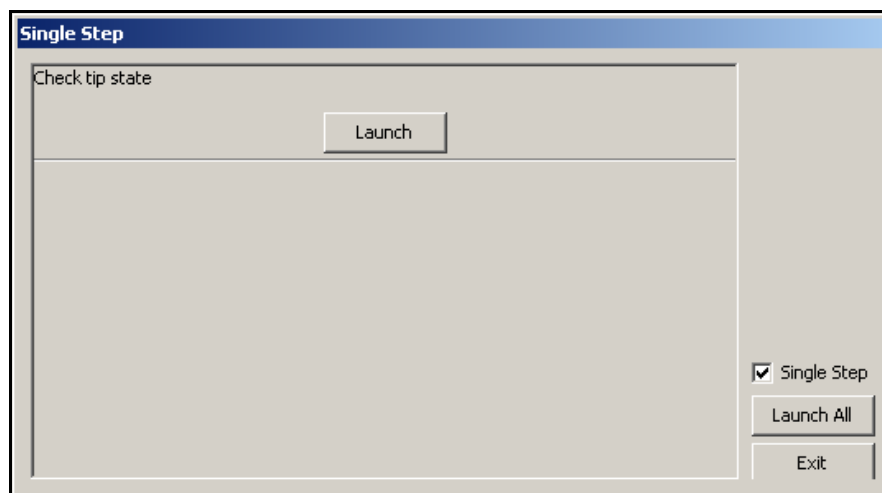

Figure 6-19. Single Step with next operation launched
3. Under **Prepare to load tips**, choose **Launch**. The next operation is launched (Figure 6-19).